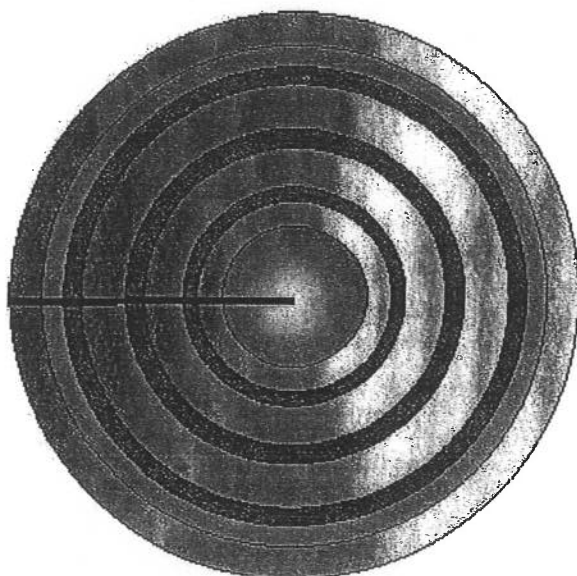

Figure 6: Cuts marked on bottom face
10. Mark the cuts on the work piece face that is away from the headstock. See Figure 6.